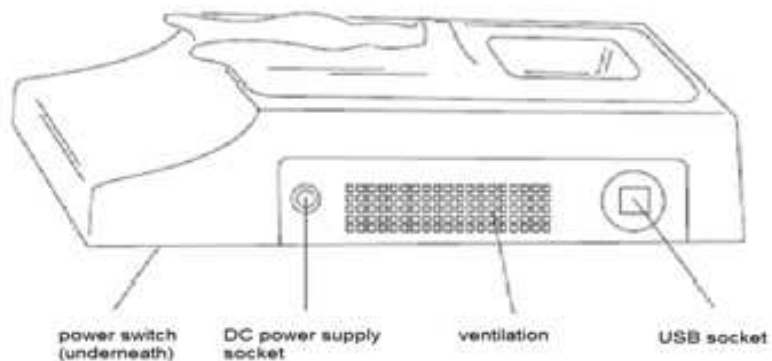

Fig. 2 Back side of base duo
1. Connect the base to the power source with a power cable. Turn the base on using the button (Fig. 2). The sound alarm indicates that the base is on.